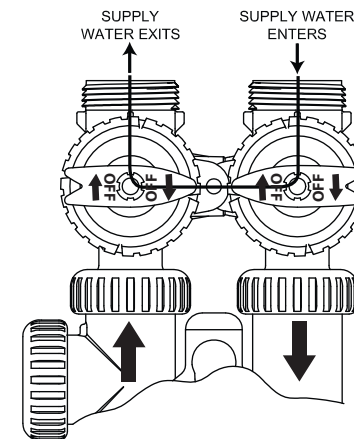

FIGURE 2
**Figure 2. Bypass Position:** The inlet and outlet handles point to the center of the bypass, the control valve is isolated from the water pressure contained in the plumbing system. Untreated water is supplied to the plumbing system.